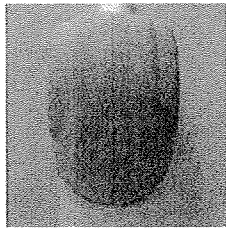

Figure 2: Covers Installed.
1. Remove the covers from each ends of the extension arm. They will un-clip from each other and the arm. Set the covers aside. Figures 2 through 7 (next page) show step by step instructions.